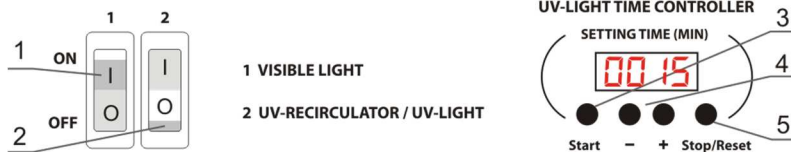
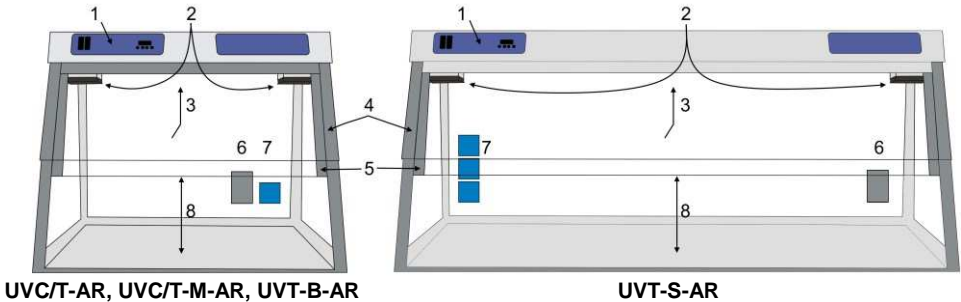

Figure 2. Control panel
Figure 3. DNA/RNA UV box, frontal view:
- 5.2.1. Turn ON the switch **2** (fig. 2/2) on the control panel (fig. 3/1). This switches on the UV recirculator inside the unit (fig. 3/2) and the open UV-lamp exposition timer. The UV recirculator will operate all the time until the switch **2** is turned OFF.
5.2.2. Use the timer **+** and **-** keys (fig. 2/4) to increase and decrease the time (SETTING TIME) of direct UV light exposition of the working place, with 1 min increment. Pressing down and holding the button for more than 2 seconds increases the increment. Recommended time of exposition is two sessions of 30 minutes, once after switching on the cabinet, once before operations inside.
5.2.3. Press the **Start** key (fig. 2/3), the UV lamp will be turned on automatically and the timer will start counting the exposition time. Timer indicator shows actual time: until 1 hour - in minutes and seconds (mm:ss), after 1 hour - in hours and minutes (hh:mm). After reaching the set time the timer will automatically turn off the open UV lamp.
5.2.4. The open UV lamp can be switched off by pressing the **Stop/Reset** key (fig. 2/5). The set time of exposition will be saved in the memory. The set time will not be saved after the complete turning off the unit.
5.3.1. Turn ON switch **1** (fig. 2/1) for lighting of the working place. This turns ON the luminescent (visible light) lamp inside the cabinet (fig. 3/3).
5.3.2. Lift the front protective screen (fig. 3/5) up for work in the cabinet. Models have different maximum opening heights (fig. 3/8), as listed in the **Specifications** section, and may be raised to the following positions:
Note. Do not block the recirculator openings (fig. 3/2)!
5.3.3. To use electric devices inside the cabinet, pull their power cable through the inlet and close the flap (fig. 3/6) or connect the power cable to a built-in mains socket (fig. 3/7, models with mains socket).
7.5. **Dust filter replacement.** The dust filters (fig. 3/2) on either end of the UV recirculator with the hidden UV lamp should be checked monthly and cleaned or replaced when they become clogged. To check, replace or clean the filters, simply unclip the covers, fit a new filter if necessary or rinse current filters in water, dry and place back. Clip covers back in place.